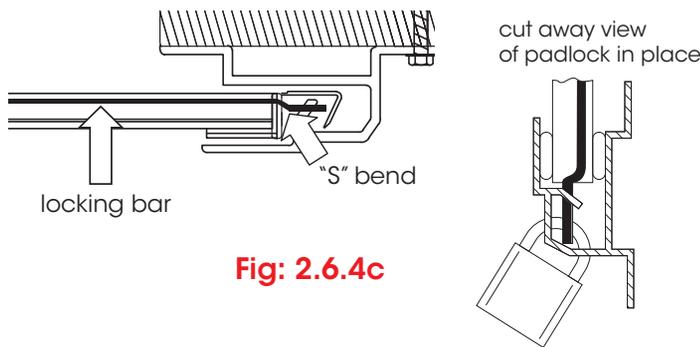

**Fig: 2.6.3**
- b) Fit faceplate to outside of door. **Fig 2.6.3**. Fit hooks onto curtain edge, then slide faceplate as far to the right as possible. Use adhesive tape to hold in position.